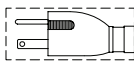
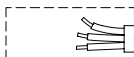

**FIGURE 9**
**FIGURE 10**
On **BP-HT & SE-HT Series**, slide the gland nut, friction rings and grommet onto cord set (see Figure 6) and slip cord through motor housing (14). Connect motor wires per Figure 9. Place motor housing (14) squarely onto seal plate while pulling excess cord through hole. Tighten socket head screws (15) into motor housing. Slide the friction rings (9b), grommet (9c) and gland nut (9a) into motor housing and tighten gland nut to 17.5 ft. lbs. Refill with cooling oil as per paragraph F-1.3. On **“HTAU”** series pumps slide the gland nut, friction rings and grommet onto cord set (see Figure 6) and slip cord (29) through motor housing (14). Connect wires per Figure 10.